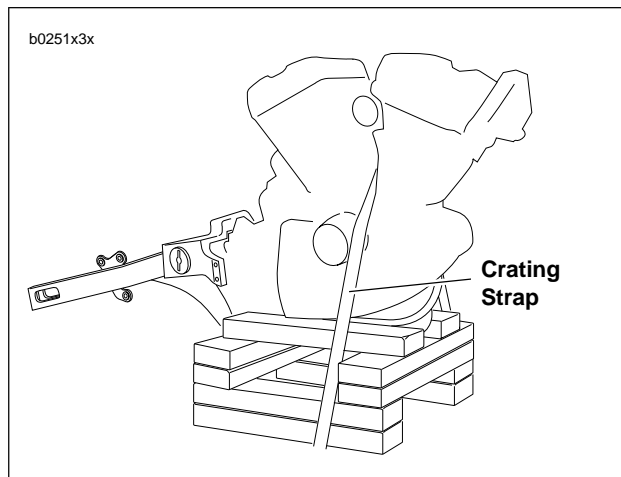

Figure 3-2. Supporting the Engine
14. See Figure 3-2. Place a wooden cradle underneath the crankcase.
1. See Figure 3-2. Place engine crankcase on supports so frame may be installed over the top of the engine.